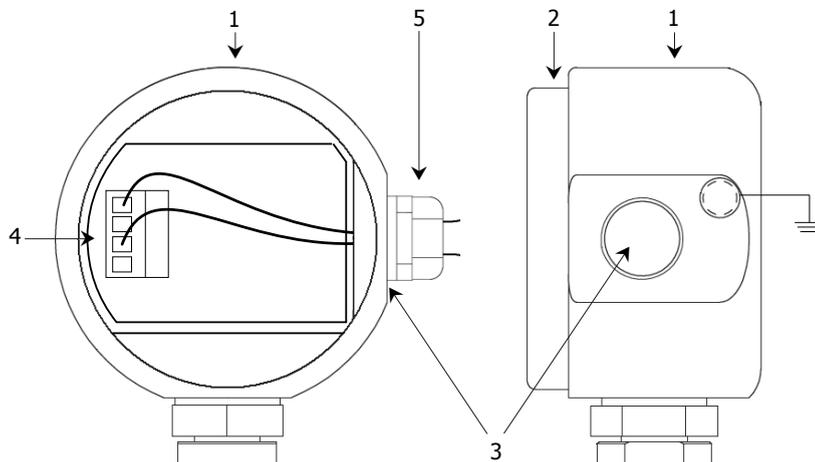

Figure 15 *Dew-Point Transmitter Housing*
- b. Cable connection to the dew-point transmitter is made via the terminal block (4) (see *Figure 15*). Remove the terminal housing lid (2) to access.